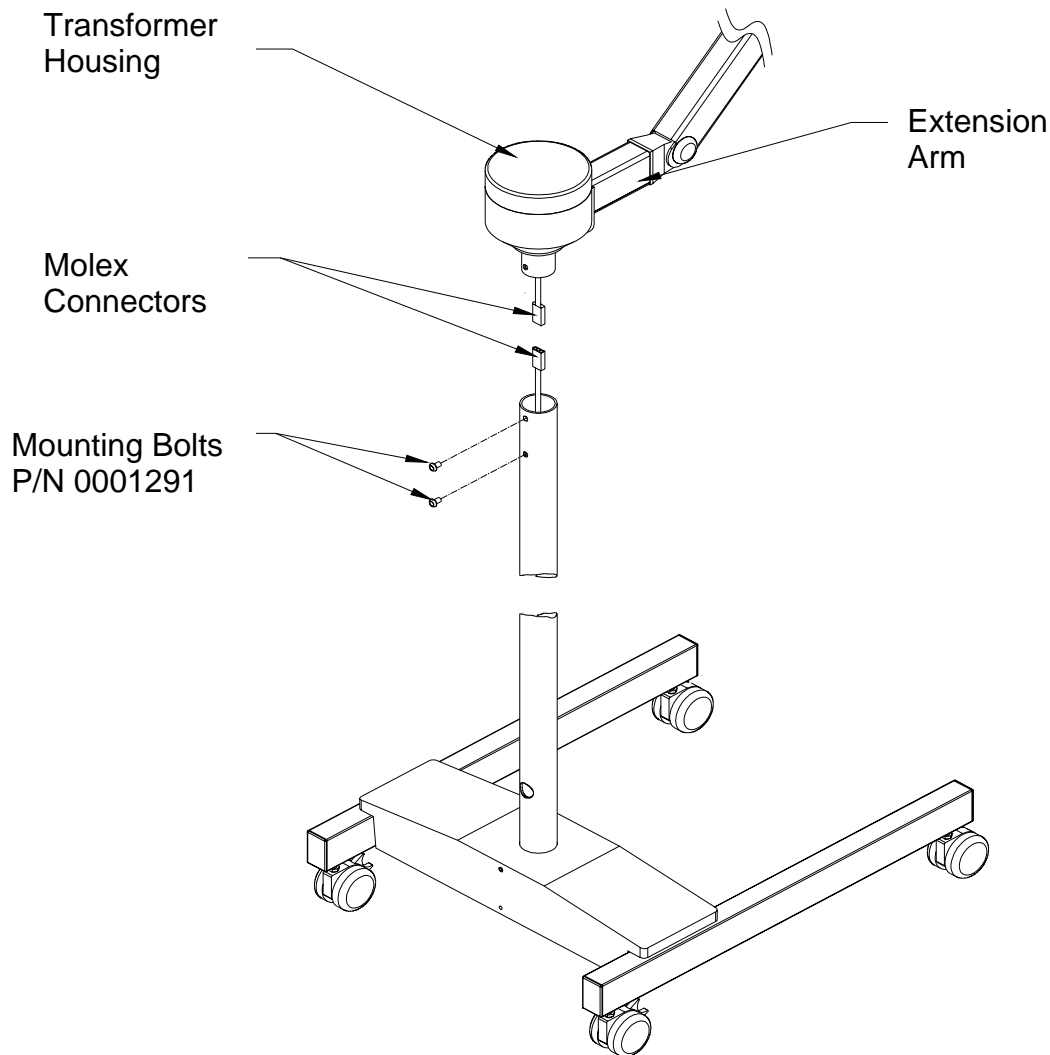

FIGURE 14: Arm Assembly to Upright Pole Installation
**Note: The light arm should be between the extended legs as shown in figure 14.**